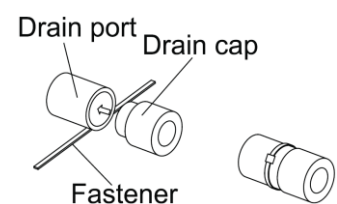

Figure 3-1-13
- (8) When using the drain port on the right side of the unit, reinstall the drain cap to the left side drain port. (Figure 3-1-13)